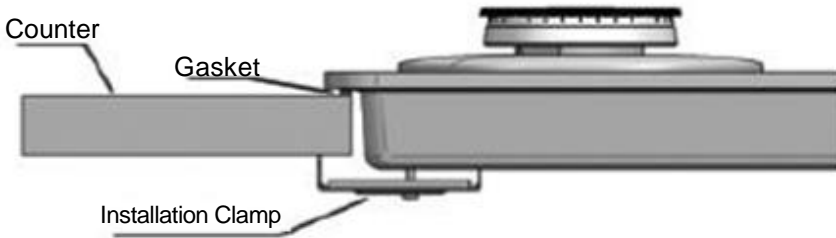

Figure 7.
counter hole without allowing any overlapping before the installation. (Figure 7)
- Secure the unit on the counter by using the installation sheet and screws. (Figure 7 and 8)